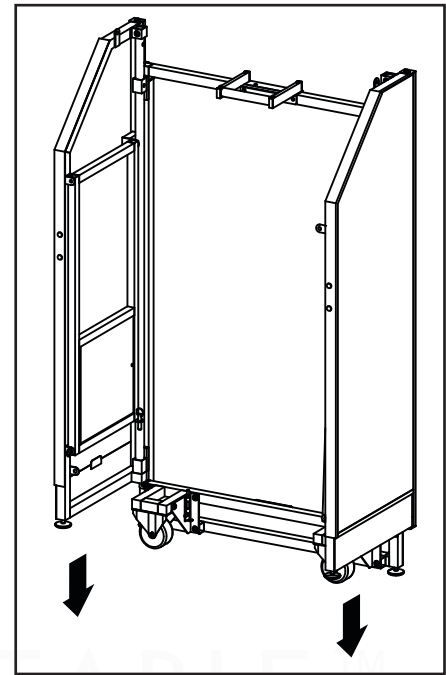

Figure 3
**CAUTION:** Side frames will drop down when fully open. See Figure 3.